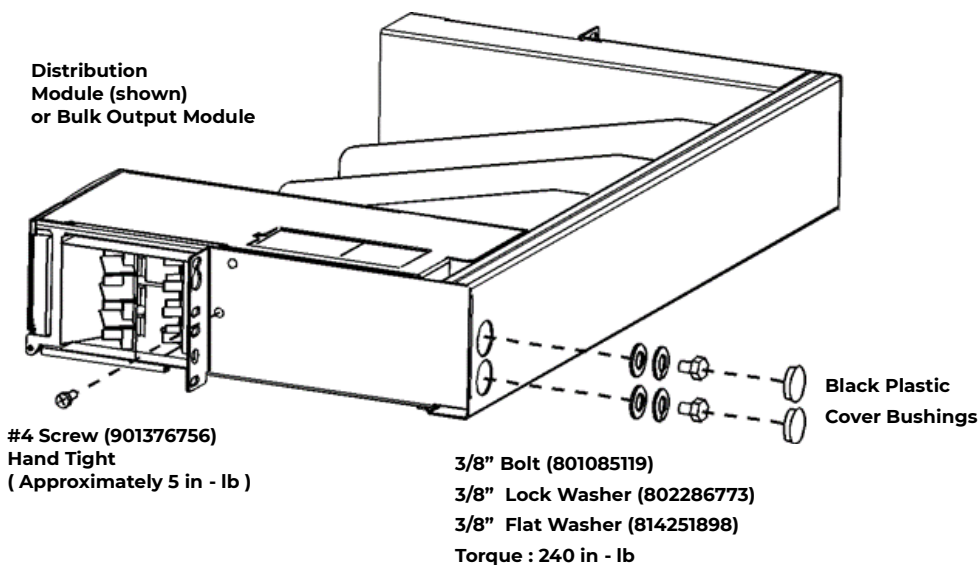

**Figure 5-1: Distribution Module**
7.	Verify the hook on the front engages under the shelf. See Figure 5-1.